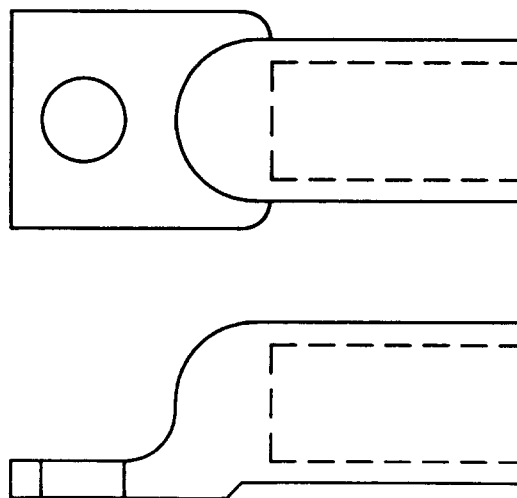

Fig. 12—KS-15977-Type Connector
2.08 KS-15977, L1 Through L348: The KS-15977-type connectors (Fig. 12) specification has both lugs and splices fabricated of aluminum or aluminum alloys. The connectors are intended for use as an attachment to Class B, C, or D stranded aluminum or copper power wire by means of the KS-15976 and/or KS-19964 crimping tools. The connectors will accept wire sizes from No. 4 through 750.